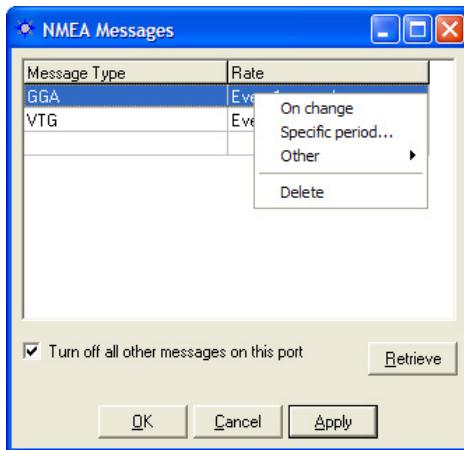

Figure 102: NMEA Rate Menu
- ✓ *Rate*: Right-click on the *Rate* cell to open the menu to schedule the frequency of output for a message (see Figure 102). Use of the default rate *On Change* is generally recommended for all NMEA messages, including GGA and VTG. Change the rate for GGA and VTG to *On Change*, if desired.